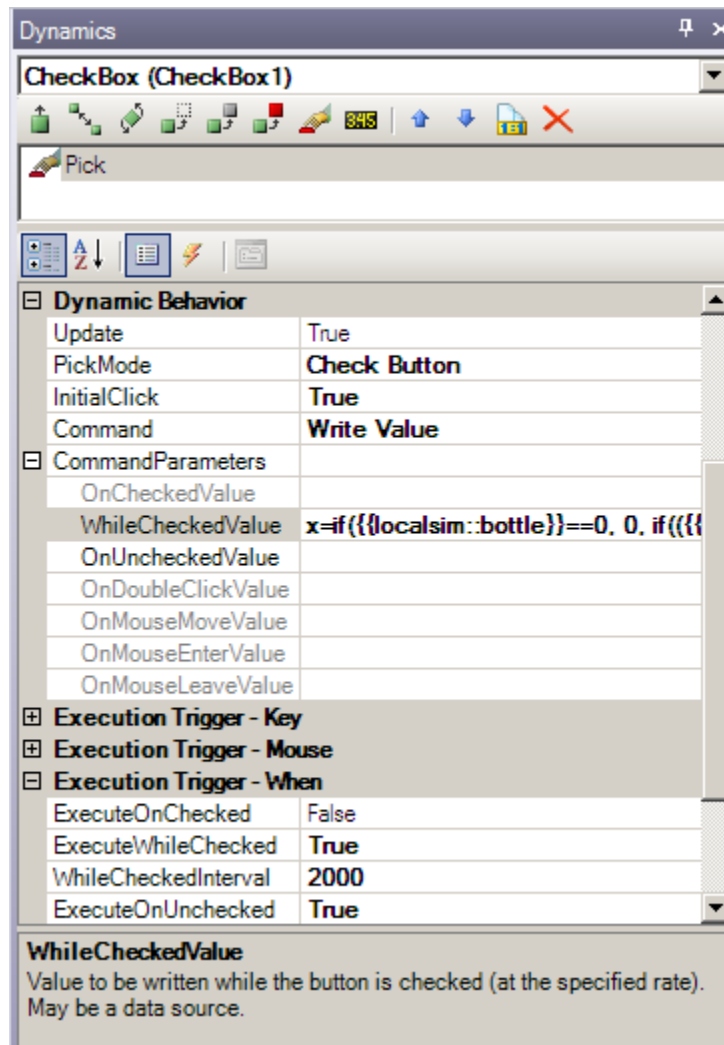

Figure 2.9 - Checkbox Pick Action
26. Your Pick Action configuration should look similar to Figure 2.9.